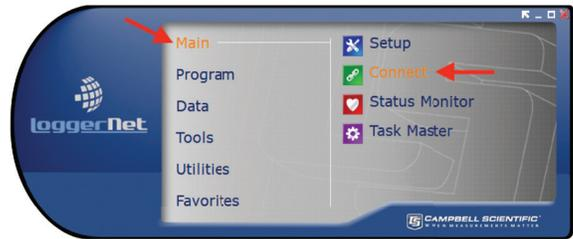
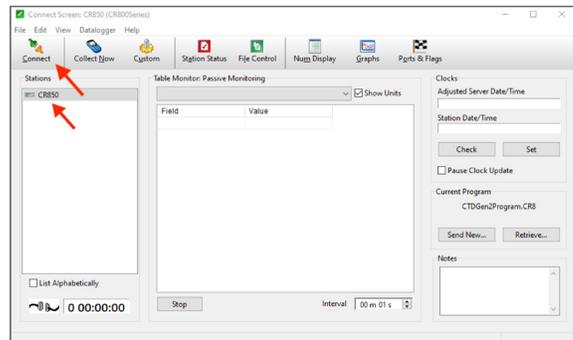

Figure 32 LoggerNet Connect screen
Figure 33 Select and connect data logger
7. Select **Connect** from the Main menu (Figure 32) to enter the Connect Screen (Figure 33).
8. Select the desired data logger listed in the Station section of the Connection window (CR850 for this example; Figure 33).
9. Click on the **Connect** button on the Connect Screen (Figure 33).